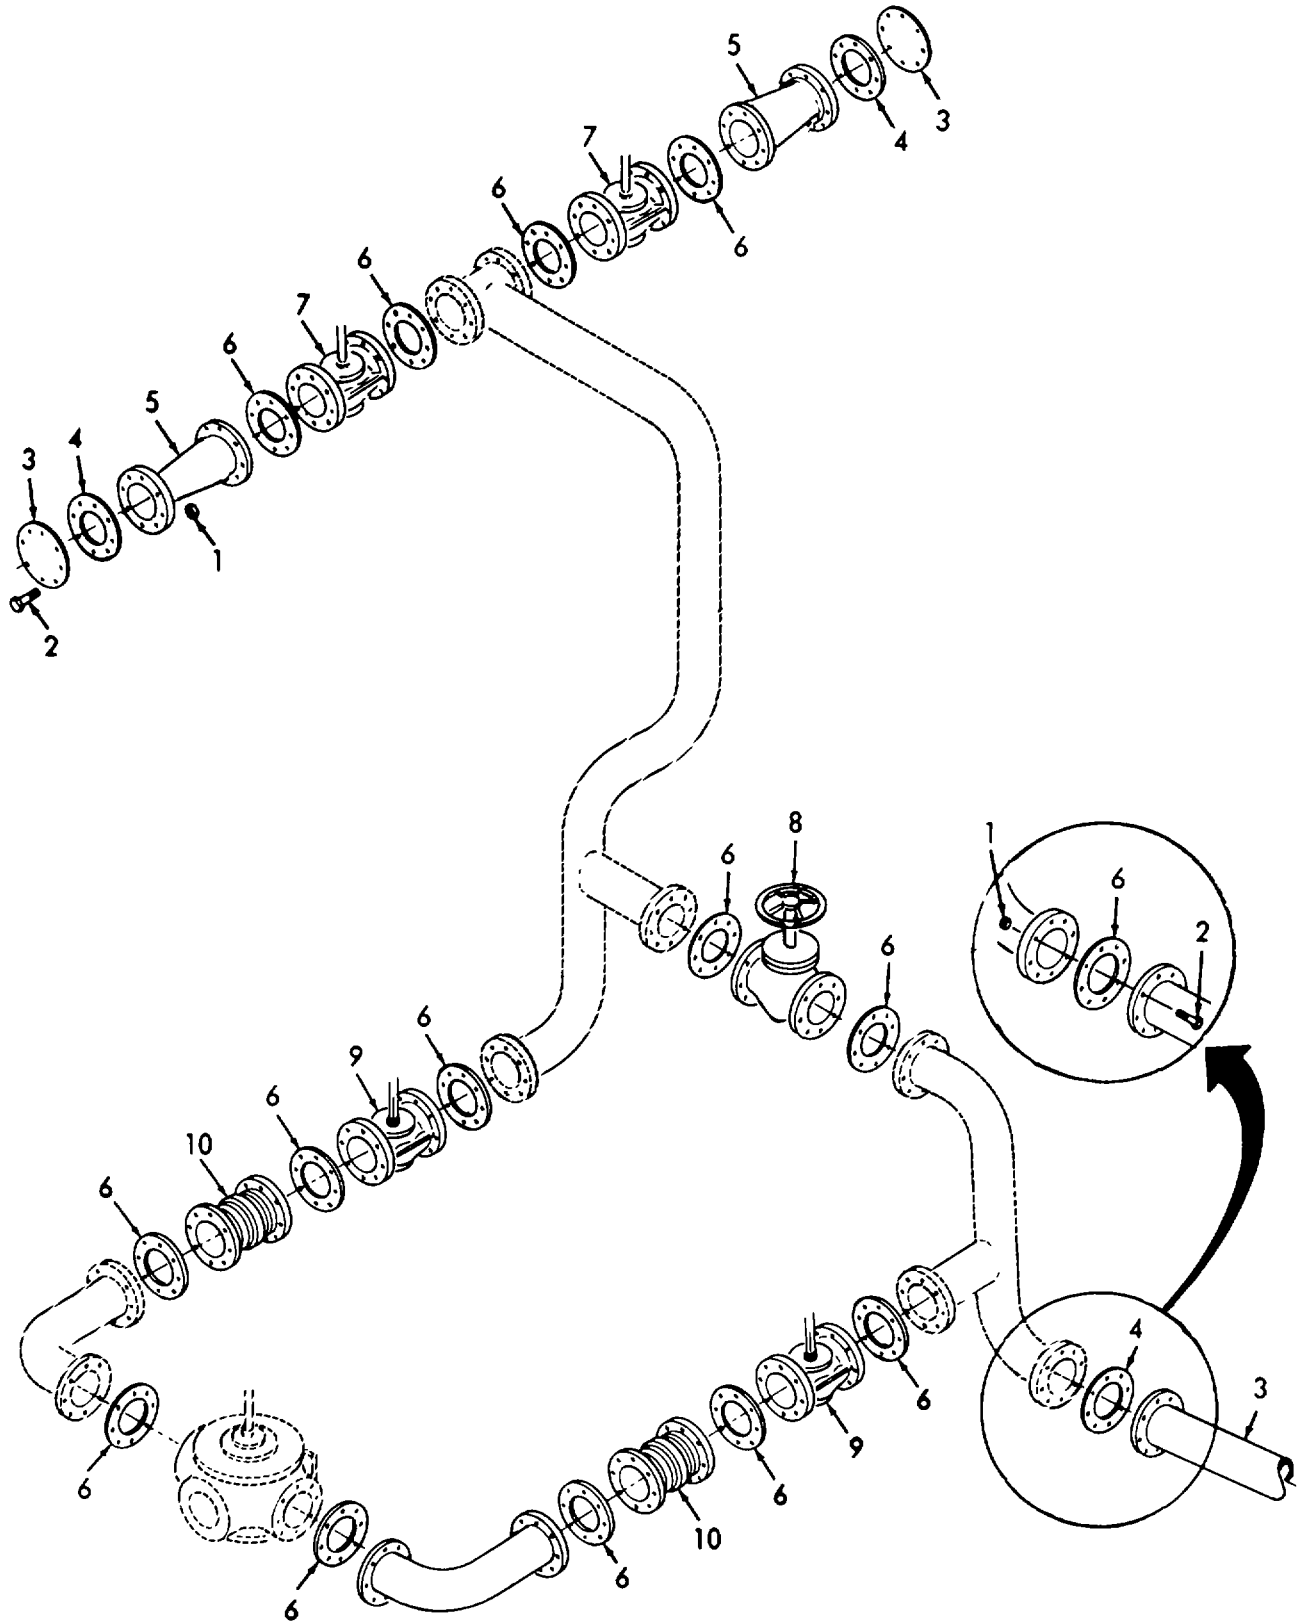

Figure 4-64. Transfer and Valves Piping, Removal/Installation.
a. Removal. (Refer to figure 4-64).
(1) Remove eight nuts (1), eight bolts (2), cover (3), and gasket (4).
(1) Refer to figure 4-64 and install two gaskets (6), two expansion joints (10), four gaskets (6), and two valves (9). Secure with bolts (2) and nuts (1).
(2) Install two gaskets (6) and valve (8). Secure valve with bolts (1) and nuts (2).
(3) Install two gaskets (6), two valves (7), two gaskets (6), two reducers (5), two gaskets (4), and two covers (3). Secure all parts with bolts (2) and nuts (1).